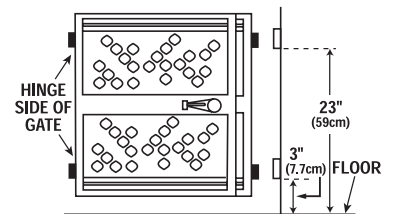

Figure 8
1. Hold gate so that locking handle is on opposite side of area accessible to child. Determine on which side you want the gate to hinge (figure 8).
6. Remove the protective cover sheet from the tape pad of one door socket (or rail socket), and with the "U" upright, press onto door jamb or railing corner post 3", measured from bottom of socket to floor (figure 8). Make sure area is free of dirt, oil, etc. before pressing into place. Mount second socket 23", measured from bottom of socket to floor.